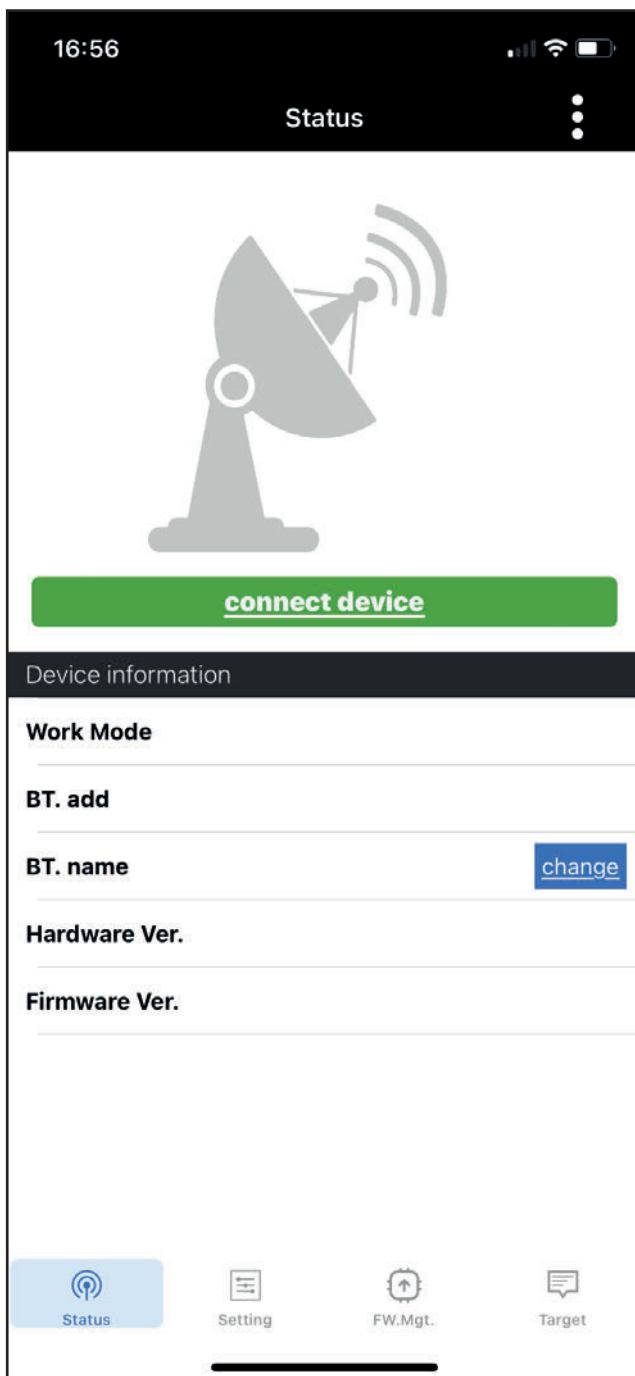

Figure 2
1. Download the App to the mobile phone and open it. (Figure 2)